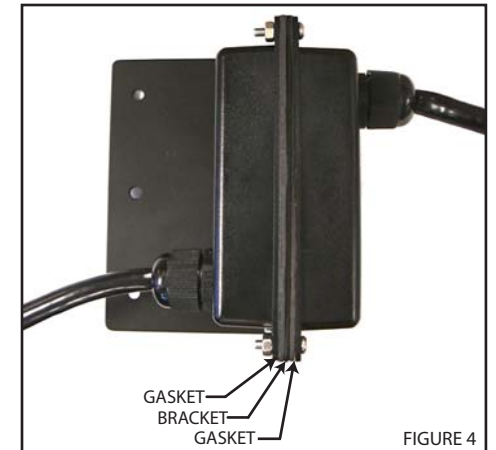

FIGURE 4
11. Using supplied screws, assemble control box with cover. Ensure gaskets are placed as shown in figure 4.